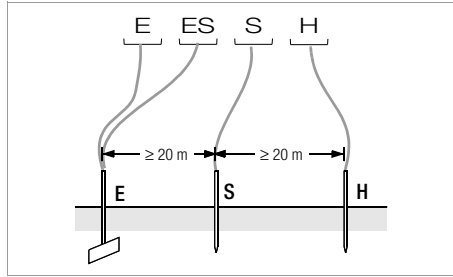

Figure 3 Measuring Earthing Resistance with a 4-Wire Test Setup
- ↗ Position the probe at least 20 meters, and the auxiliary earth electrode at least 40 meters from the earth electrode (see also Figure 3 on page 19).